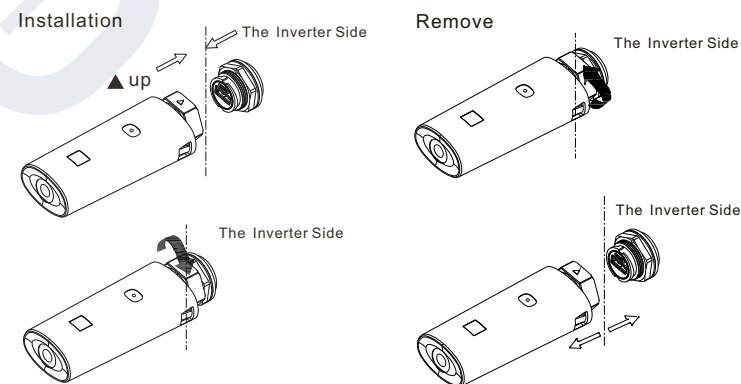

Fig 6.8B
- 3> As shown in Figure 6.8B, make sure that the \triangle is facing upwards, insert the monitoring module into the USB interface, and tighten the lock.